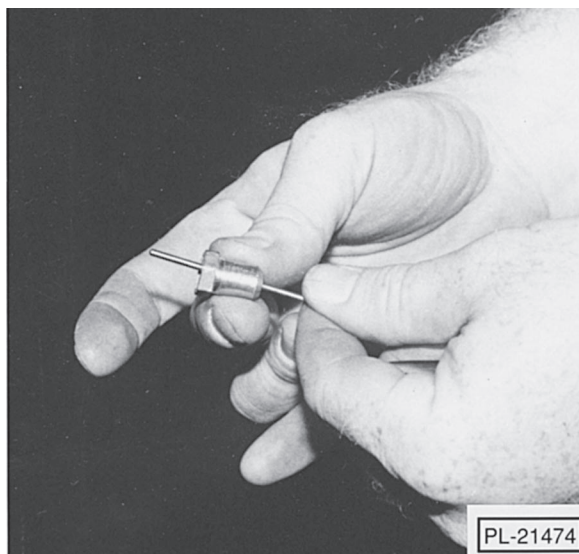

Fig. 44
5. Check for blockage or damages (Fig. 44).